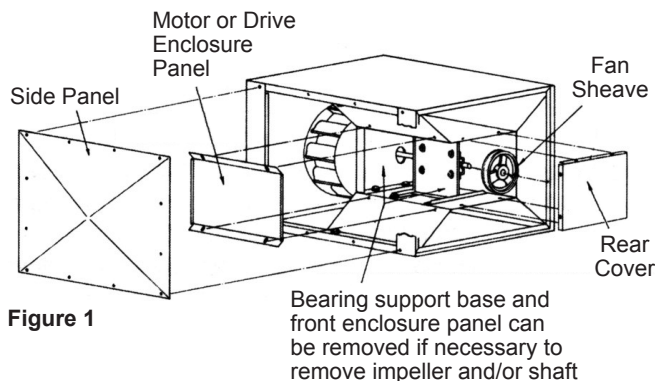

Figure 1
- Impeller Adjustment: Turn centrifugal impeller by hand to make sure it rotates freely. If impeller hits orifice, remove side panel (both sides are removable) and motor or drive enclosure panel as in shown Figure 1.
6. If it should become necessary to remove the impeller, first remove the motor and impeller or shaft, bearing and impeller assembly (see Figure 1). On model sizes 120, 137 and 161 there is a sleeve which fits inside the impeller hub. To remove the impeller from the shaft, completely remove the two socket head cap screws that go through the sleeve. The impeller will then slide off the sleeve and the set screws attaching the sleeve can be loosened allowing its removal. The impellers on larger size units are attached with a roll pin. Remove the roll pin by driving it out with a drift pin.